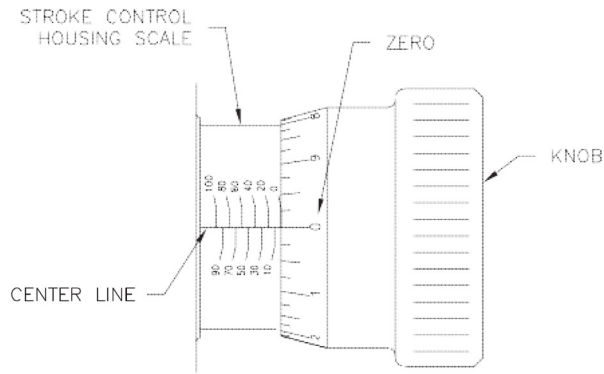

Figure 4-2. Stroke Control Alignment
m. Position the knob (47) over the stroke control housing with the zero graduation on the knob lined up with the center line of the stroke control housing scale, as shown in Figure 4-2.
o. Slide the knob, if necessary, to align the scales as shown in Figure 4-2. Tighten the three M6 set screws equally. Make sure the set screws that are used have a Nylok™ patch on the threads to prevent oil leakage